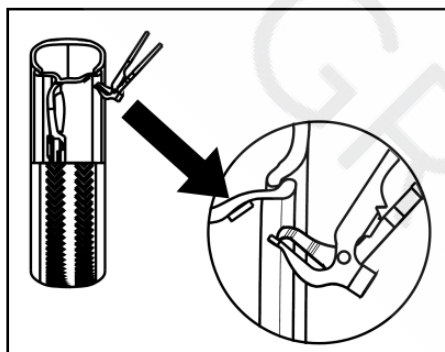

FIG22
- Deflate the air in the tire completely and pull out the core. Use the special tool to detach the weight on the rim (FIG22).